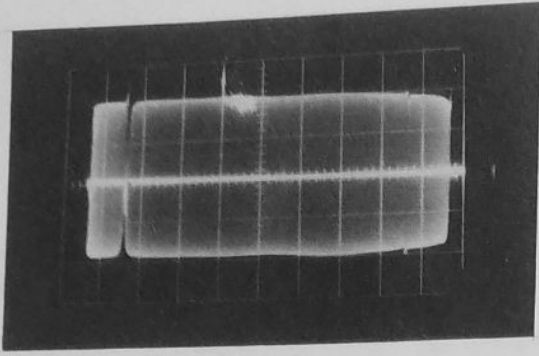

Figure 23. Input at Junction of 2R60, 2R62, and 2R63. Output at 2V14, Pin 1. Marker on 6 mc.
16. Connect the scope probe to 2V14, pin 1. Adjust the sweep generator output for approximately 0.5 v at 2V14, pin 1. Set the marker on 6 mc. If necessary, readjust 2L8 and 2L9 for a flat response with reference to 1 mc response. (See Figure 23.)